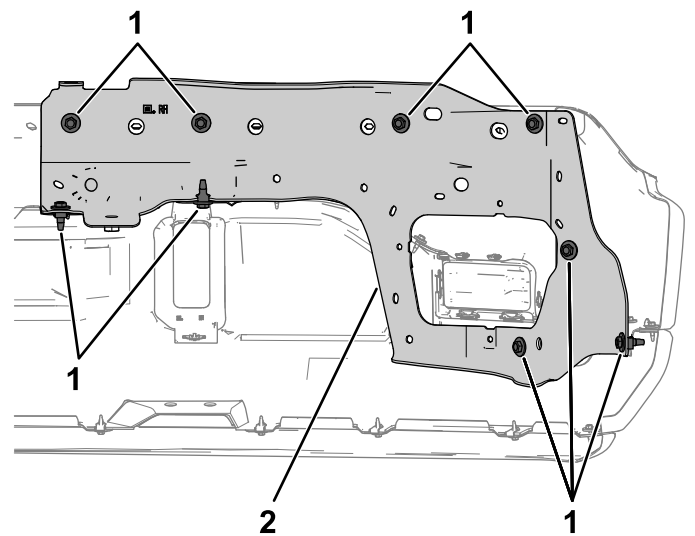

Figure 1
5. Remove the bolts that fasten the rear brackets to the bumper shell (Figure 1). Set aside the rear brackets.